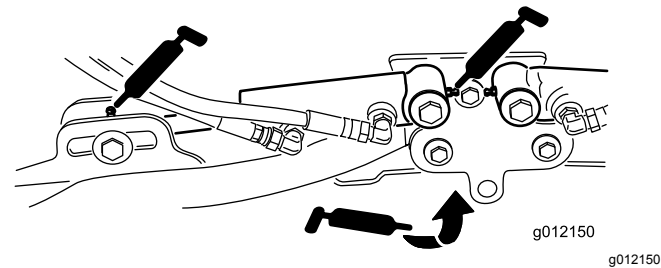

Figure 42
- Cutting-unit lift-arm cylinders (2 each) (Figure 42)
- Lift-arm pivots (1 each) (Figure 42)